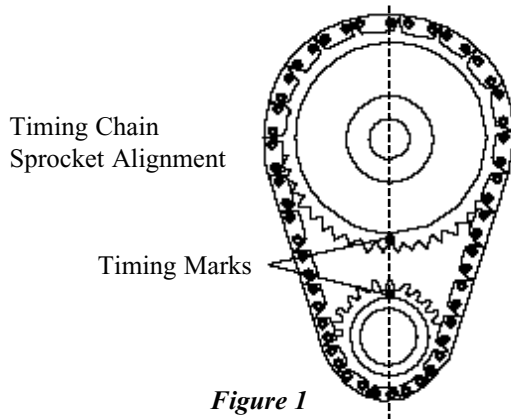

Figure 1
13. Rotate engine until timing marks are aligned as shown in Figure 1.
2. Install new camshaft with new sprockets, timing chain and lifters. **CAUTION:** Use Edelbrock Performer-Link True Rolling Timing Chain and Gear Set #7830. Do not use late model timing chain & gear sets that are designed in a retarded position and are not recommended for this camshaft installation. Edelbrock Timing Sets feature three keyways for specific timing selection. Use locking compound material on the bolt threads holding timing gear to cam. Torque to factory recommendations specified in motor repair manual. Install camshaft with timing marks lined up as recommended by factory specifications. See Figure 1.
High performance pushrods and rocker arms and studs are recommended for this installation. After the cam is installed and timed correctly (see Figure 1), it will be necessary to check each pushrod for correct lifter pre-load.